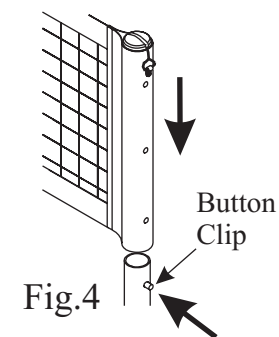

Fig.4
- 3** Roll out the Net (part 1) and place the open end of each Top Upright (attached to the net) over the Upright on each End Assembly as shown in Figure 4. Allow the Net Upright to locate in the required position by pushing in the Button Clip and sliding the Upright to the desired height. **IMPORTANT:-** At this stage make sure the Net Headline rope is NOT in the jaws of the clam Cleet.